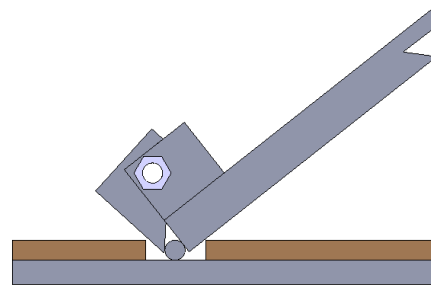

Fig.18
4. To lower lift: Press the button UP, until the safety lock is in the released position (**See Fig.18**), lower lift by pushing lowering handle.